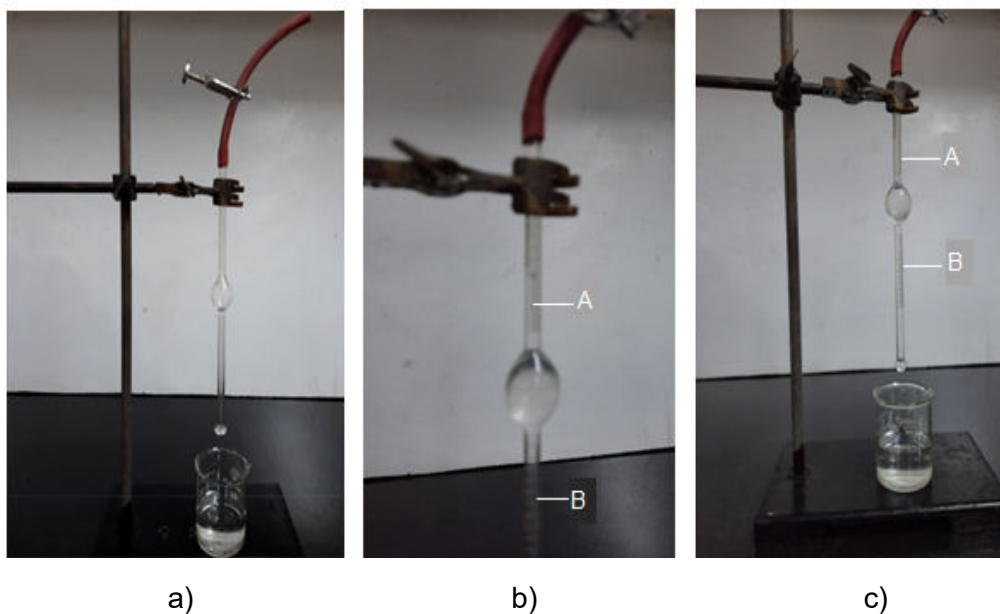

Fig. 7.1: Apparatus for the determination of surface tension.
2. Fix the stalagmometer on a stand with the help of a clamp. Place a beaker containing water below the stalagmometer as shown in Fig. 7.1 a).
3. Fill it with distilled water by sucking it little above the mark A. Close the pinch cock and insert the stalagmometer into the beaker, see Fig. 7.1 b).
5. Adjust the air inflow so that the number of drops formed should not exceed 15 drops per minute, see Fig. 7.1 c).